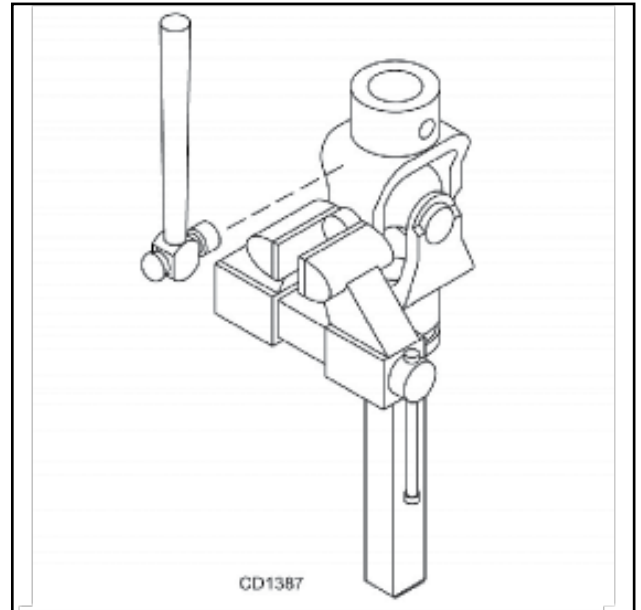

Figure 24. Remove Cups
3. Clamp cup in vise as shown in Figure 24 and tap on yoke to completely remove cup from yoke. Repeat Step 2 and Step 3 for opposite cup.